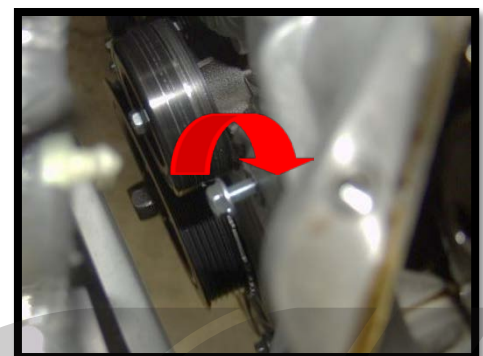

Figure 3n
- o) Continue to hold the camshaft and thread the bolt you placed in the chain rail hole in step 3i all the way into the timing chain cover (Figure 3n).